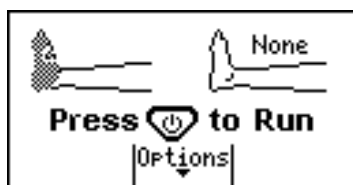

Figure 6 - LCD Display - Single Garment Connected
4.9.2 The LCD display will confirm that only one garment is connected (Refer to Figure 6).